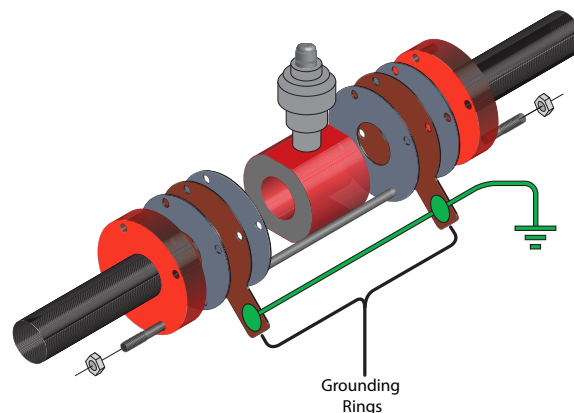

Figure 13: Grounding ring installation
4. Use grounding rings when metal pipes are used in conjunction with this meter. See *Figure 13*.